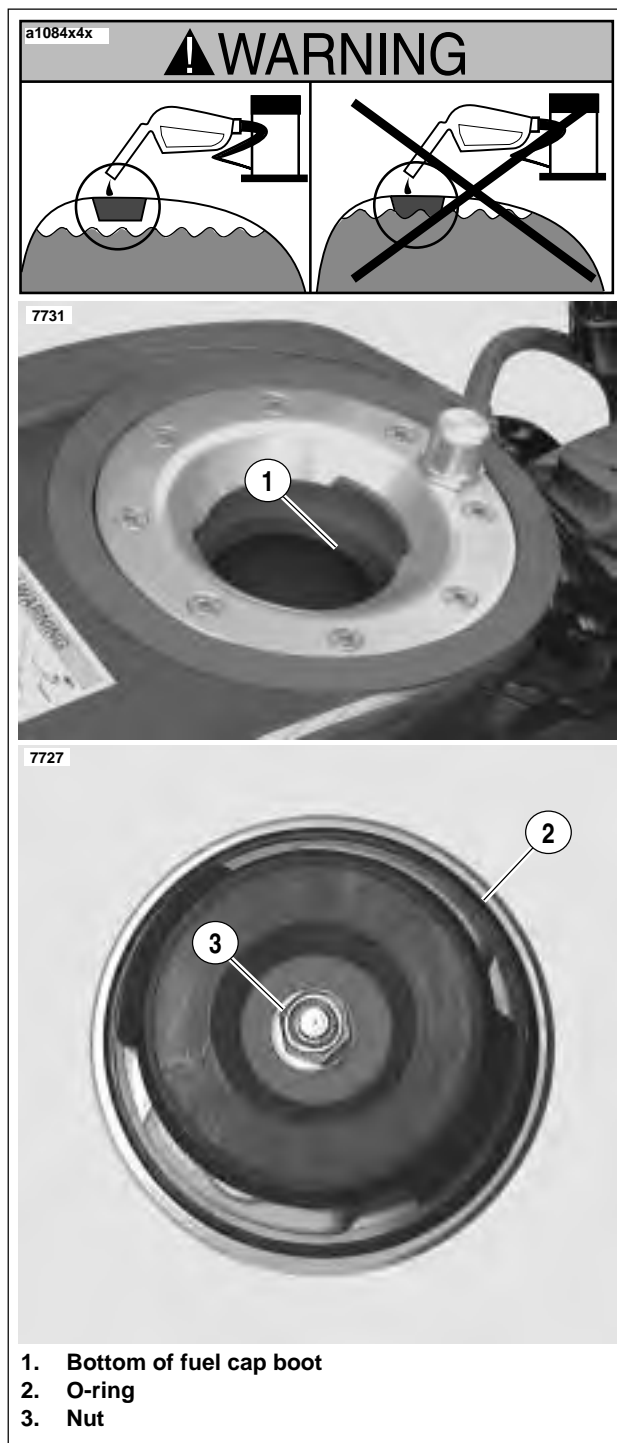

Figure 4-4. Fuel Cap
5. See Figure 4-4. Observe the warning label at the top of the fuel tank. When refueling, keep fuel level at least one inch below bottom of fuel cap boot (1).
1. See Figure 4-4. Inspect o-ring (2) at underside of fuel filler cap for cuts, tears or signs of deterioration. Replace if necessary.
See Figure 4-4. Locking tab should snap down tightly, but not so tight that it becomes too difficult to remove. To increase or decrease the tension required to operate the locking tab, turn the fuel filler cap over and either loosen or tighten the 10 mm nut (3).